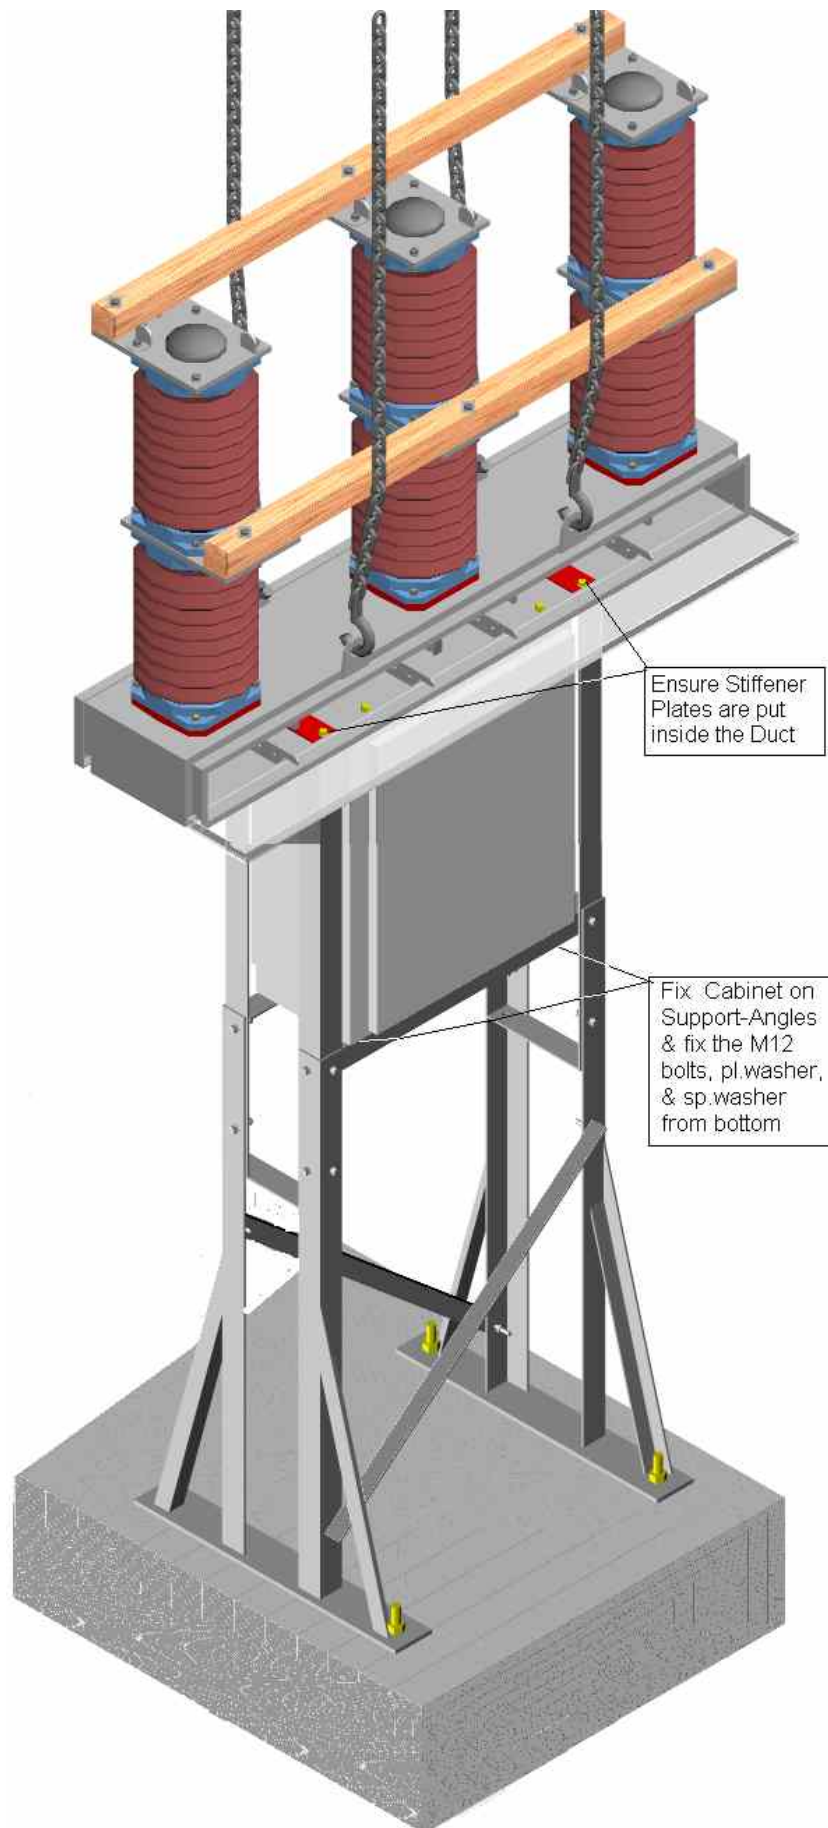

Fig.19 Fixing the breaker on the structure
- Refer Fig. 19 before going for assembly.